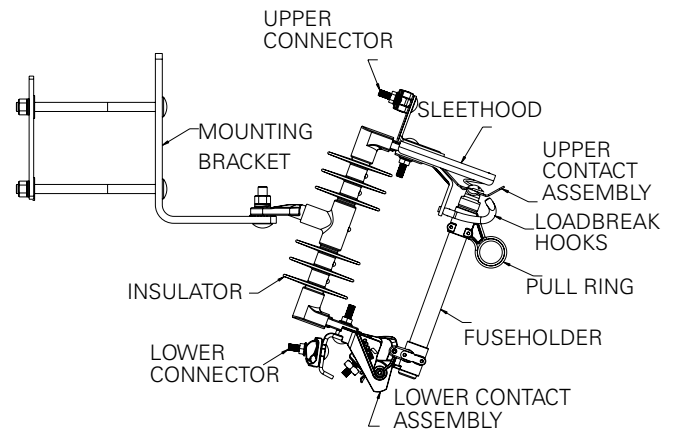

Figure 1. UltraSIL Polymer-Insulated Type L interchangeable cutout assembly.
Eaton's Cooper Power™ series UltraSIL™ Polymer-insulated and Porcelain Types L and LB interchangeable cutout will accept expulsion fuseholders and disconnect blades (refer to Figure 1). The cutout's primary function is to interrupt fault or overload current within its rating on a distribution line to protect the electric circuit and/or connected equipment.
1. **Loosen upper and lower connectors** (See Figure 1).